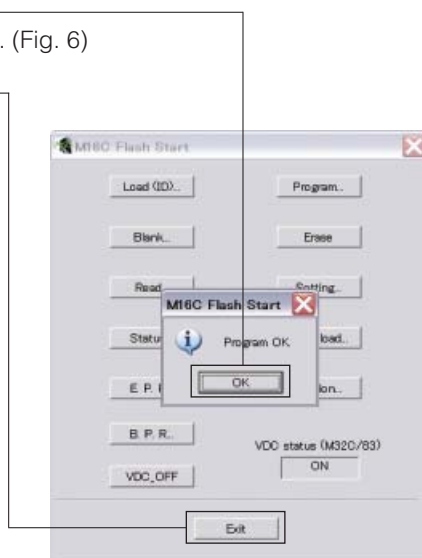

Fig. 6
8. When writing of the firmware is completed, the screen appears as shown below. (Fig. 6)
Click [OK]. (Fig. 6)
9. Click [Exit] to end FlashSta.exe. (Fig. 6)